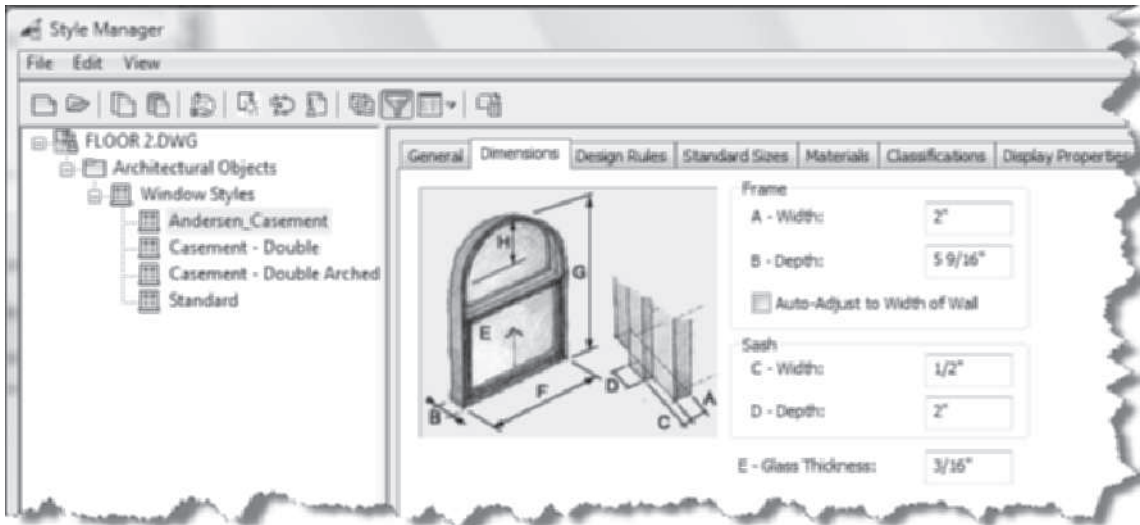

FIGURE 5.69 Dimensions tab of the window style in the Style Manager
16. Select the **General** tab in the right pane, and type **Double Casement Windows** in the **Description** field. Select the **Dimensions** tab in the right pane, and edit the Frame section: A-Width = **2" [50]**, B-Depth = **5 9/16" [140]**, Sash C-Width = **1/2" [12]**, D-Depth = **2" [50]**, and E-Glass Thickness = **3/16" [5]** as shown in Figure 5.69.